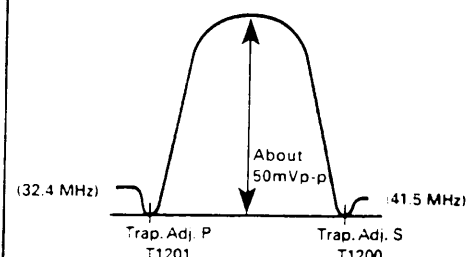

Fig 2.
- 4: Adjust T1200 (Adj.-S Trap) so that trap is (41.5 MHz). (See fig. 2.)